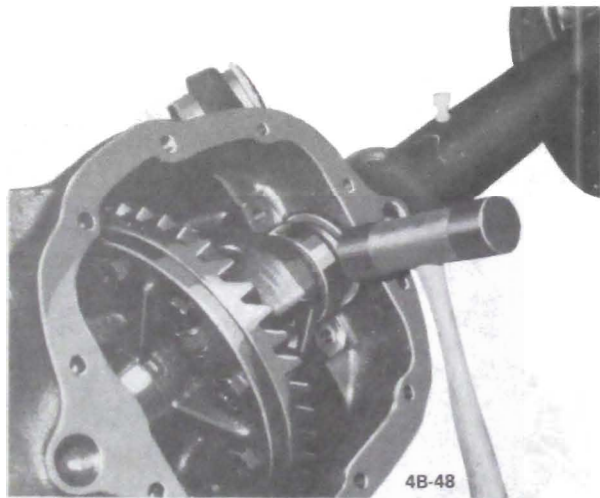

Figure 4B-48 - Installing Differential Adjusting Shims
2. Place differential case and bearing assembly in position in carrier. Use service type adjusting shim totaling same thickness as original production type adjusting shims if either new or reused bearings are to be used. Slip left shims in position at left bearing with steel shim next to bearing, then place nominal thickness shim for right side in position and drive steel shim carefully into position between bearing and cast shim using a soft hammer. See Figure 4B-48.